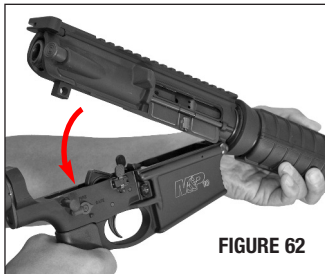

FIGURE 62
- Tip upper receiver open as instructed previously in the Disassembly Section (FIGURE 62).